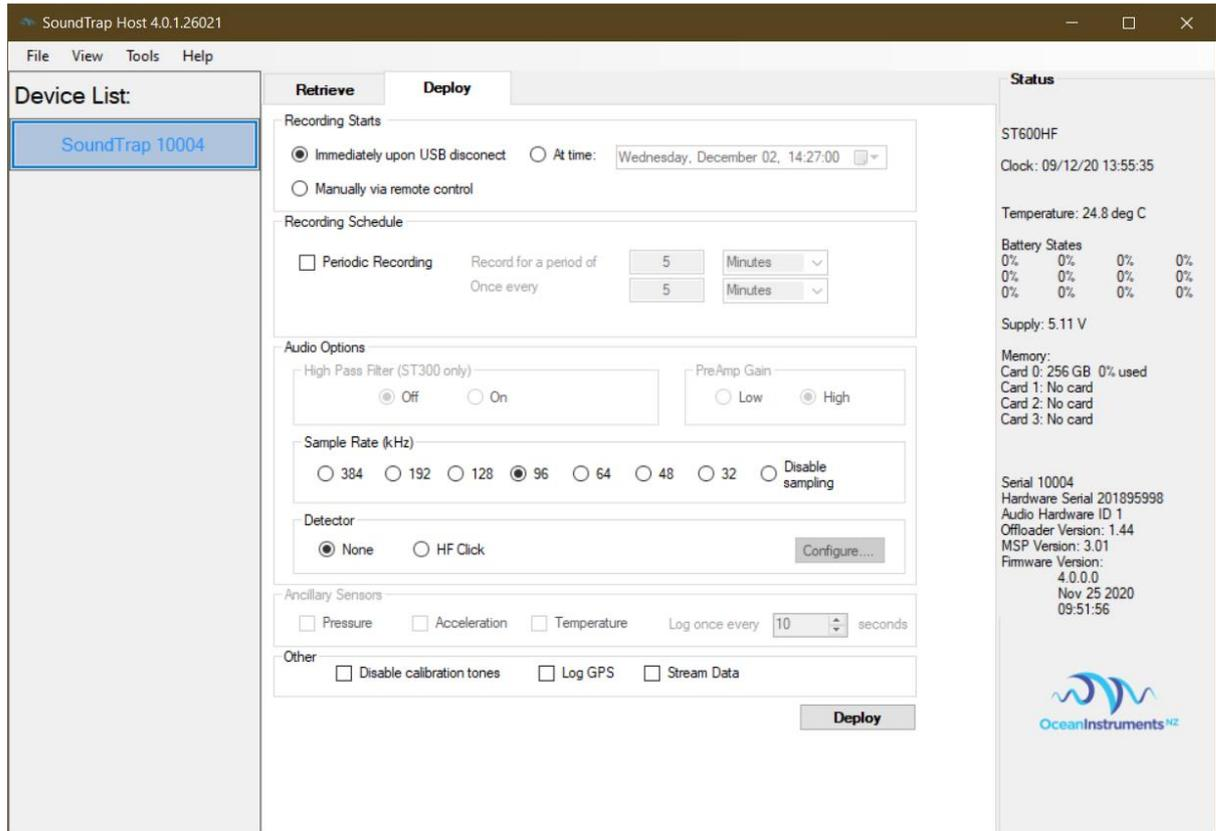

Figure 4 – Deploy Control
Note the 'Status' panel on the right (Figure 4). Carefully review the state of memory and batteries in the right-hand pane, checking that all batteries show 100% charge and all memory show 0% used.
- Select the 'Deploy' tab as shown in figure 4.